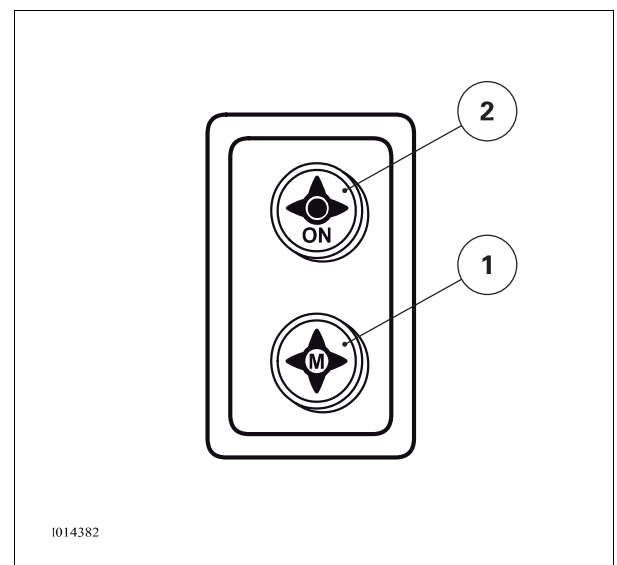

Fig. 2.
1. **IMPORTANT:** The tractor hydraulics must be deactivated to use the loader. The red indicator light located in the center of button (1) fig. 2 should be on.